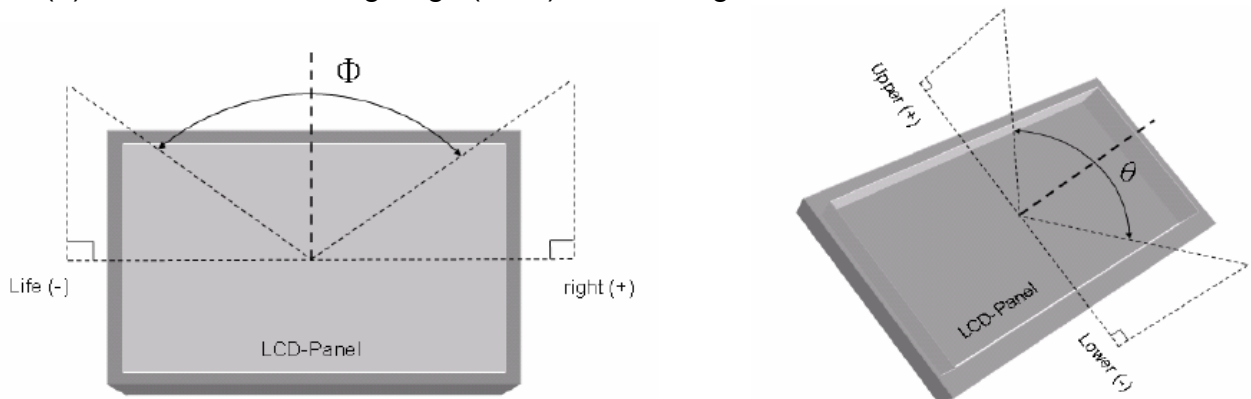

Fig9-2 Definition of Viewing Angle
(3) Definition of Viewing Angle(Θ, Φ), refer to Fig9-2 as below :